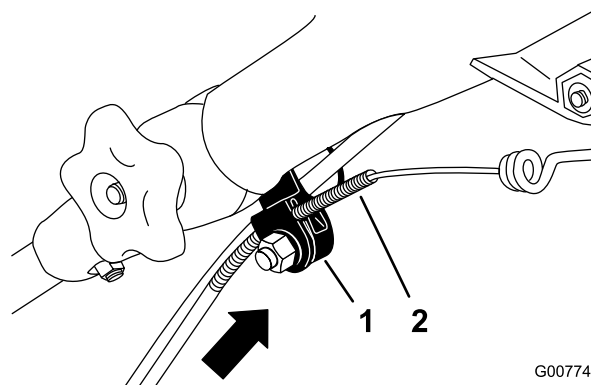

Figure 25
**Note:** You can place a ruler against the upper side of the black cable mount and measure how far the upper end of the cable jacket moves (Figure 25).